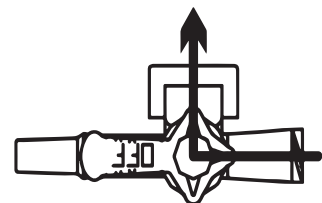
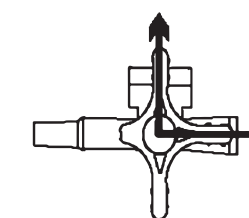

Figure 10
Figure 14
2. To ensure air is removed from under the septum, turn tap OFF to the patient direction (Fig.10 or Fig.14) and insert syringe into the septum. If connected to a transducer, activate the flush device while drawing the air and bubbles from inside tube and under the septum.